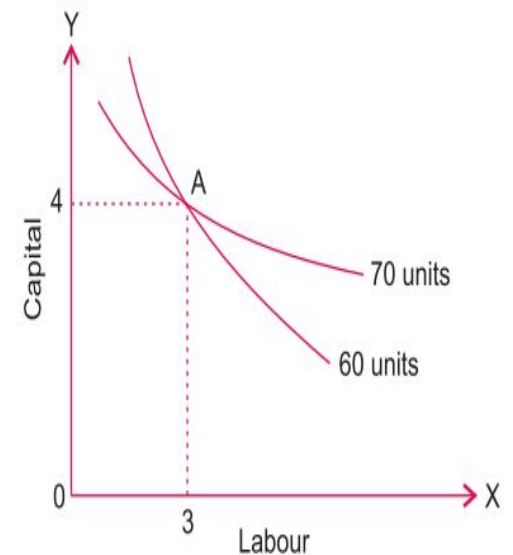

Figure 4.6: Intersection of Isoquants (impossible condition)
- **No two isoquants intersect or touch each other.** If two isoquants intersect or touch each other it means that there is a common point on the two curves (point A in Figure 4.6). This common point would imply that the same amount of labour and capital can produce two levels of outputs (example, 60 and 70 units, here), which is impossible.